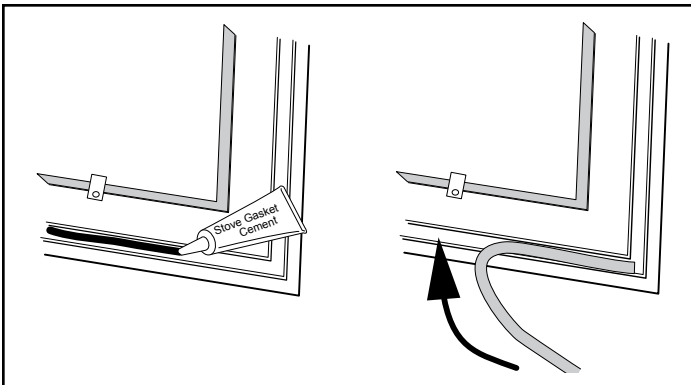

**Figure 6.4** - Remove gasket then clean channel with wire brush.
1. Remove the existing gasket by grasping an end and pulling firmly, Figure 6.4.
2. Use a wire brush or the tip of a screwdriver to clean the channel of any remaining cement or bits of gasket. Remove stubborn deposits of cement with a cold chisel if necessary, Figure 6.4.